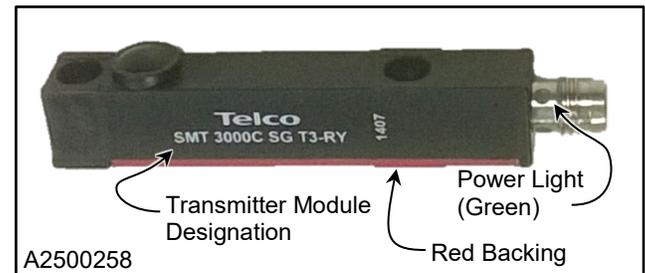

Figure 31
2. **Flange Block Bearings:** The drum roll/door panel is supported by two bearings, which are located at both ends of the assembly. The bearings have a grease fitting. (See Figure 31)